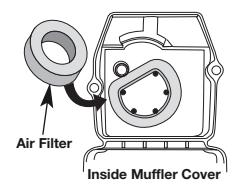

Fig. 22
- Turn cover over and look inside to locate the air filter. Remove the air filter from inside the air filter/muffler cover (Fig. 22).
- Replace the air filter inside the air filter/muffler cover (Fig. 22).